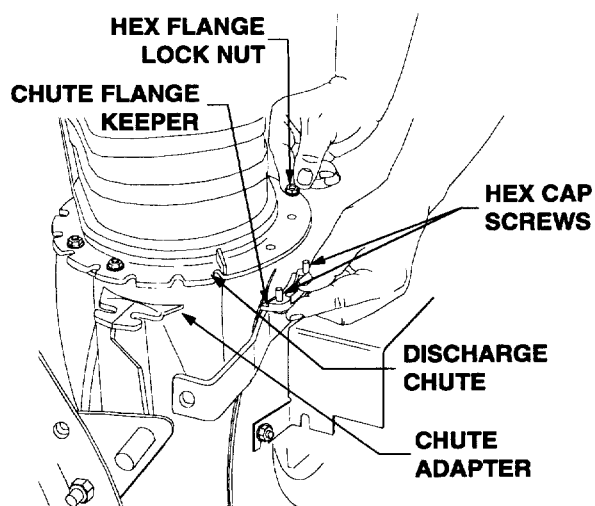

Figure 3
1. Lubricate the flange of the chute adapter on the rear of the snow thrower assembly (A) housing, using a multi-purpose automotive grease or equivalent. Refer to Figure 3.
2. Place the discharge chute assembly (B) over the opening of the chute adapter, with the opening of the discharge chute facing forward.
3. With their flat surface facing downward, place the chute flange keepers (14) beneath the flanges of both the discharge chute (B) and the chute adapter. Insert the hex cap screws (12) up through the flange keepers and discharge chute flange as shown in Figure 3. Secure with the hex flanged lock nuts (13). After assembling all three chute flange keepers, tighten all lock nuts until snug, then back off (loosen) approximately 1/4 turn.